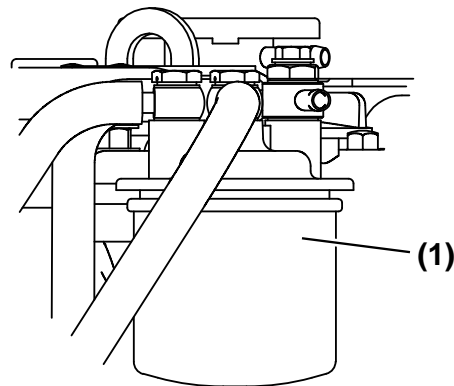

Figure 13
(**Figure 13, (1)**) with a filter wrench.